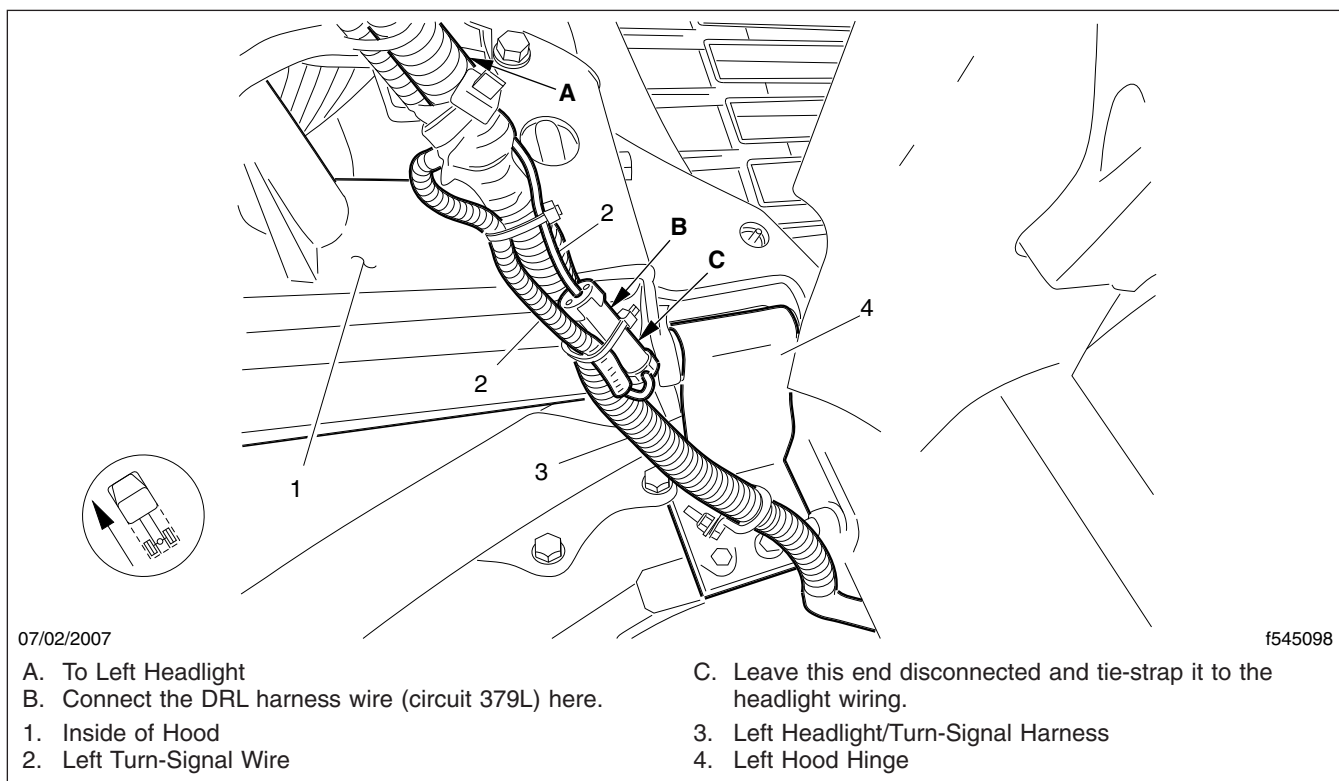

Fig. 2, Left Turn-Signal Connection for DRL (hood raised)
7.3 Using diagram D06-53191-001 as a general reference, route the wire harness from the CHM to the turn-signal connections near the headlights. See Fig. 2. Disconnect the turn-signal wires (circuits 38R and 38L) and connect the wires for circuits 379R and 379L to the corresponding left- and right-side turn signal wires.